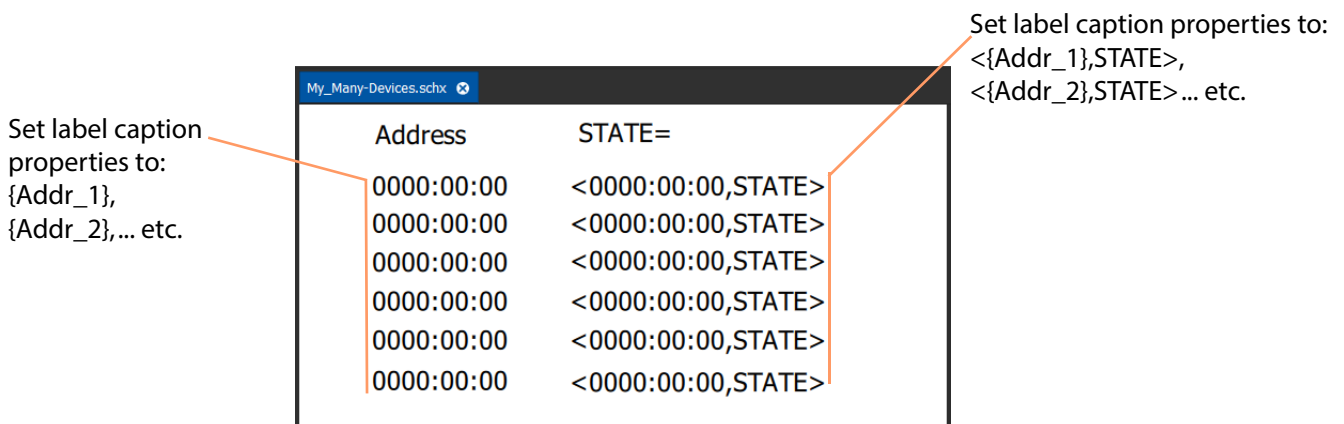

Fig. 9-7: My_Many-Devices.schx
- 2 Add **Label** widgets and configure as shown in Figure 9-7.